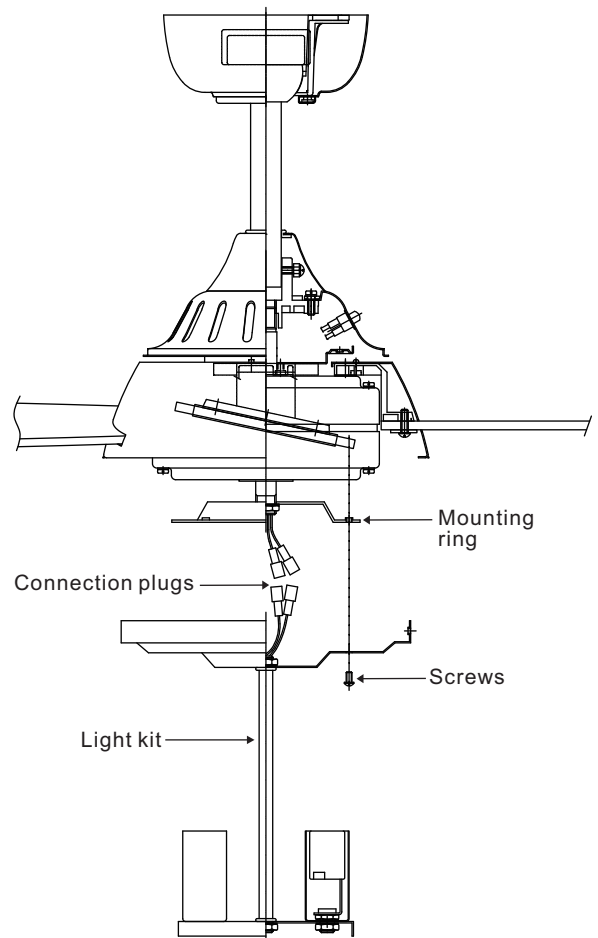

Figure 15
**Step 2.** Raise and hold the light kit close to the mounting ring and proceed to do the wire connections. Connect the white wire connectors from the light kit and fan, follow the same procedure with the black wire connectors. (Fig. 15)